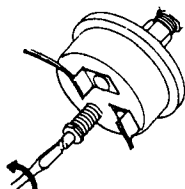

FIG. 13
In such cases, follow the detailed instructions for adjusting the switch contained in Fig. 13.
**NOTE:** If heater is installed more than 15 feet below the pool surface, or more than 6 feet above the pool surface, the adjustment shown in Fig. 13 should not be used. Consult factory.